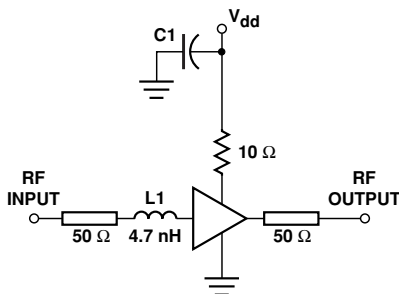

Figure 10. Test Circuit for 2 GHz.
3. Guaranteed specifications are 100% tested in the circuit in Figure 10 in the Applications Information section.
The circuit shown in Figure 10 is used for 100% RF testing of Noise Figure and Gain. The input of this circuit is fixed tuned for a conjugate power match (maximum power transfer, or, minimum Input VSWR) at 2 GHz. Tests in this circuit are used to guarantee the NF_{test} and G_{test} parameters shown in the Electrical Specifications table.
The test circuit in Figure 10 illustrates a suitable method for bringing bias into the MGA-87563. The bias connection must be designed so that it adequately bypasses the V_{dd} terminal while not inadvertently creating any resonances at frequencies where the MGA-87563 has gain.
The input of the MGA-87563 is partially matched internally to 50 Ω . The use of a simple input conjugate matching circuit (such as shown in Figure 10 for 2 GHz), will lower the noise figure considerably. A significant advantage of the MGA-87563's design is that the impedance match for NF_o (minimum noise figure) is very close to a conjugate power match. This means that a very low noise figure can be realized simultaneously with a low input VSWR. The typical difference